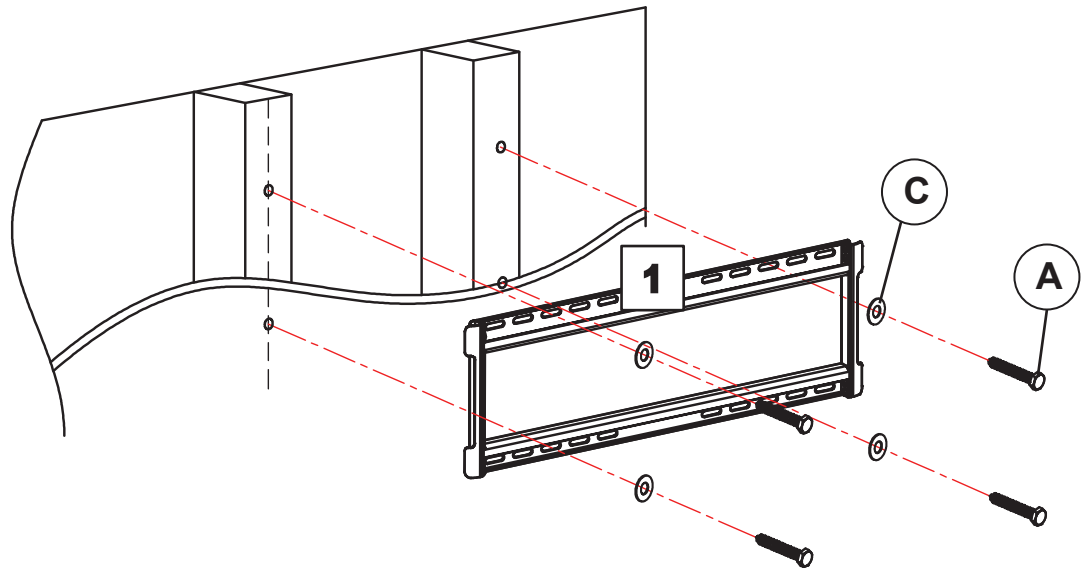

Fig. 3c
4. Use a wrench, the four **Long Bolts (A)**, and **Washers (C)** to attach the wall mount to the wall as shown in Fig. 3c. Do not use wall anchors in wood stud walls.
5. Use the **Level** placed on the front of the **Wall Plate (1)** to level the wall mount, repositioning as necessary, then firmly tighten the bolts. Do not overtighten.